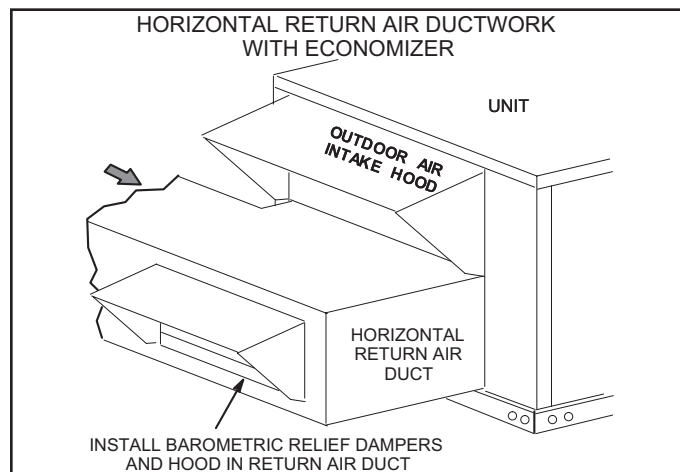

FIGURE 4
- 5 - Install return air duct beneath outdoor air intake. See FIGURE 4. Install barometric relief damper in lower hood and install in ductwork as shown in FIGURE 4.